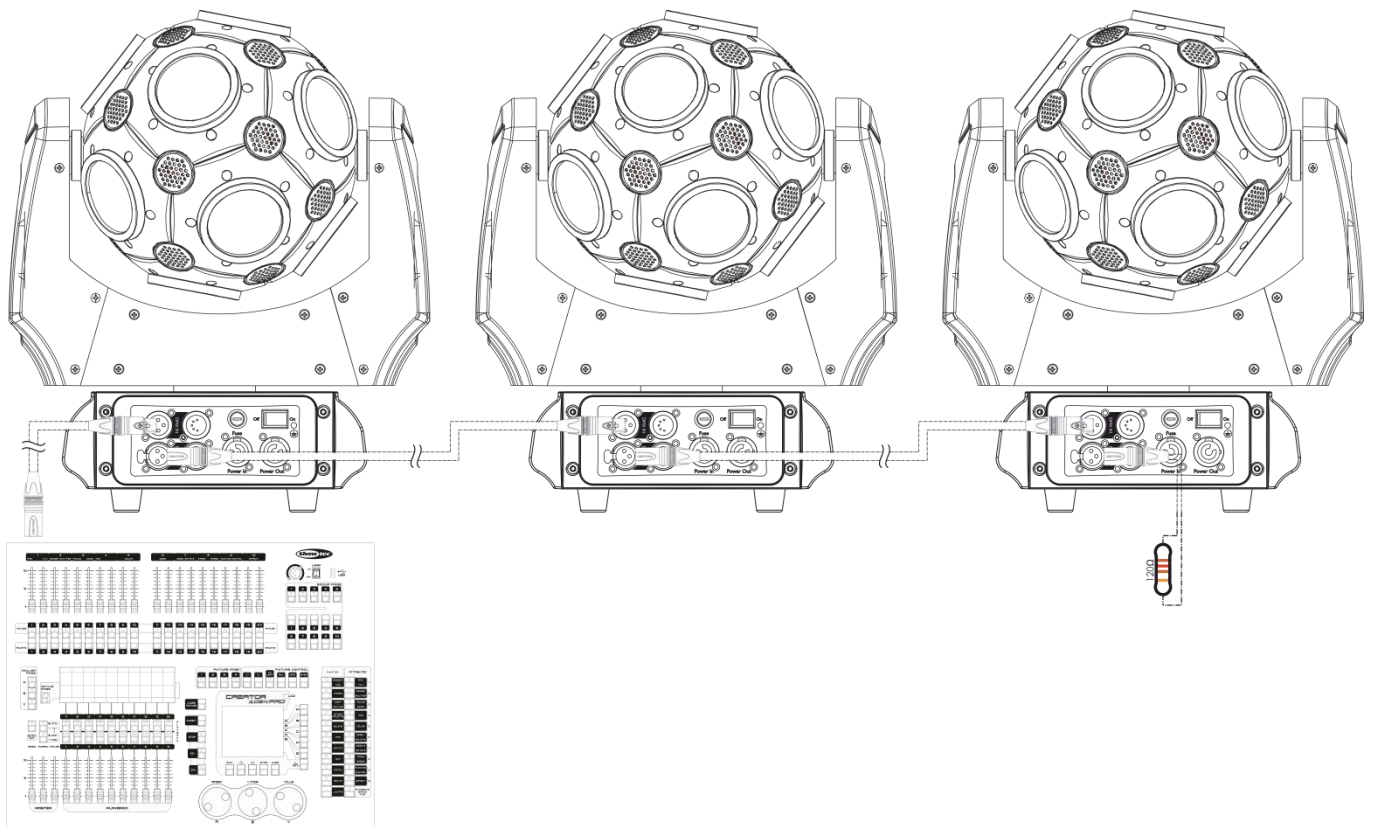

Fig. 04
- 05) Link the units as shown in (Fig. 04), Connect a DMX signal cable from the first unit's DMX "out" socket to the second unit's "in" socket. Repeat this process to link the second and third units.